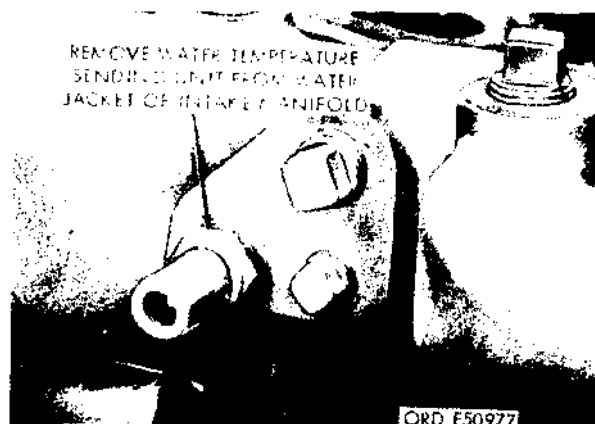

Figure 54.35. Water temperature sending unit.
(5) Remove water temperature sending unit by unscrewing unit from thermostat housing (figure 54.35).